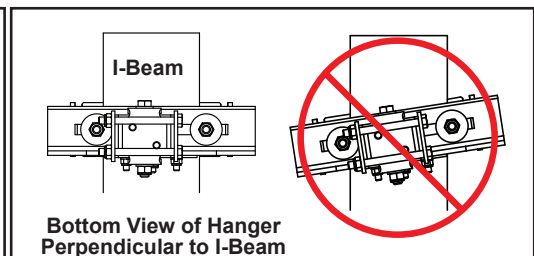

Figure 3-56B
- Step 7. Ensure I-beam bracket is perpendicular to I-beam lower flange. See Figure 3-56B below.